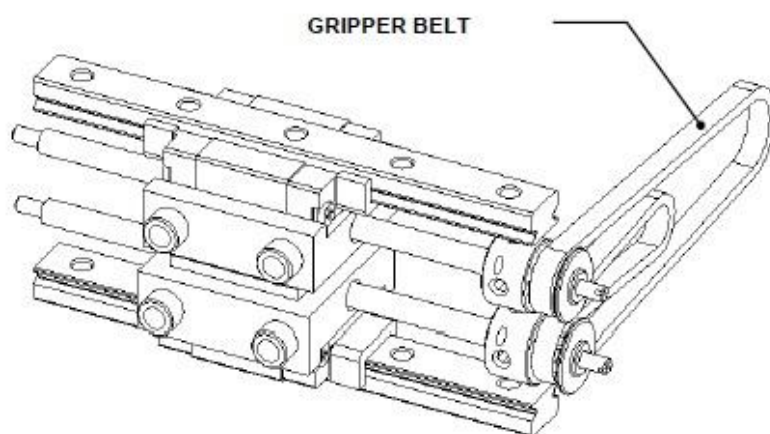

Figure H-18: Belt Format around Leadscrew Pulleys
1. Thread the belt over the pulleys on the Leadscrew as shown in Figure H-18 and the motor as shown in Figure H-17.